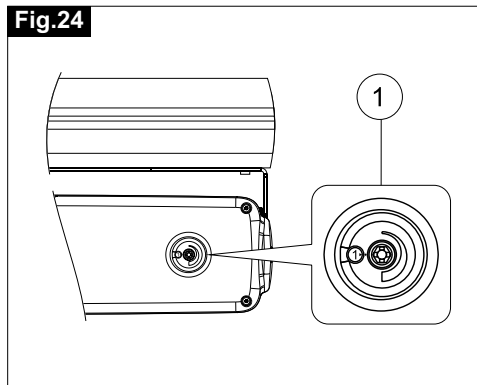

Fig.25
- 2) **Fig. 25-** With a pencil draw the centre line "Y" of the window frame;